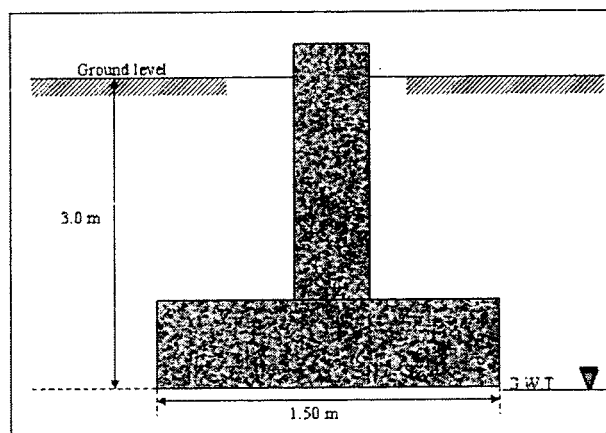

Figure 2(b) / Rajah 2 (b)
- (b) **Figure 2 (b)** shows a cross section of a strip footing embedded in firm soil strata. The undrained cohesion value of the soil is 55KPa and the angle of friction is 10° . Calculate the Ultimate Bearing Capacity of the footing if the Dry Unit Weight of soil is 19 kN/m^3 and the Saturated Unit Weight of soil is 20 kN/m^3 . Ground water level (G.W.T) is at the base of the footing.
- (c) A strip footing is shown in **Figure 2(c)**. Using Terzaghi's bearing capacity factors, calculate the gross allowable load per unit area (q_{all}) that the foundation can carry. Given: